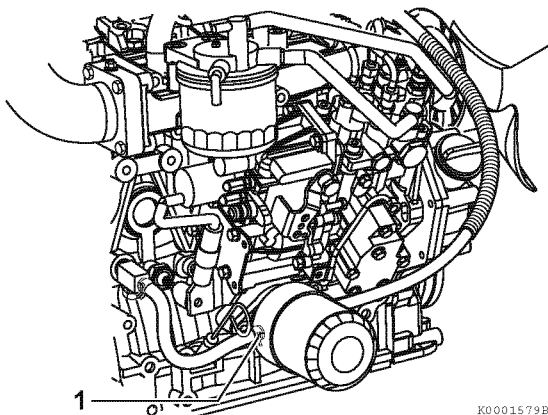

Figure 5-20
- On models equipped with an oil cooler, remove the coolant hose (1, **Figure 5-20**) at the oil cooler.